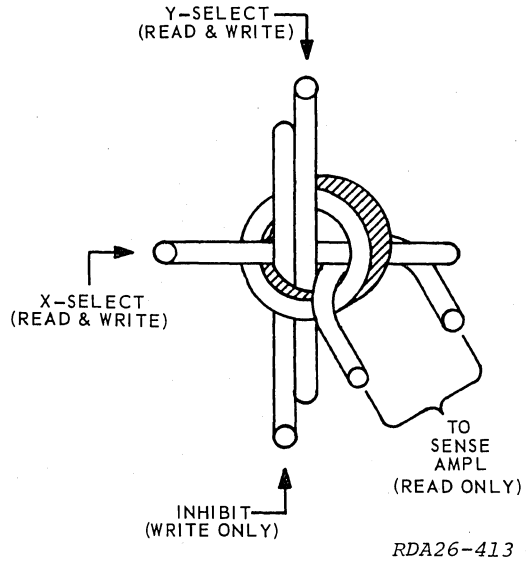

Figure 1-10. Ferrite Core
**INHIBIT WINDING.** Notice that the selection of a core that was in the zero state by positive half-select currents caused it to switch to the one state. The application of negative half-select currents to a core can be used to switch it from the one to the zero state. However, sometimes we need to select a core but leave the state of that core unchanged. This need to select, but not change, usually is the result of wanting to "write a zero." "Writing a zero" requires that we add another wire to the simple core plane, an inhibit winding. The inhibit winding will carry current that opposes one of the positive half-select currents and prevents the address selected core from switching to the one state. Since only one core from a plane can be selected at any one time, a single inhibit winding can be threaded through all the cores on a plane and energized only when it is necessary to "write a zero" into the selected core. In figure 1-10 the inhibit winding is parallel to the Y select wire.
SENSE WINDING. If information is stored in a ferrite core, we need some way of sensing or removing that information. This is usually done by adding yet another wire to the simple core plane, a sense winding (see figure 1-10). The sense winding is used to observe the current produced when a magnetic core is changed from the one to the zero state. The use of a sense winding requires that we apply negative half-select currents to the core in an attempt to put it in the zero state. If the core was in the one state and it is switched to the zero state, then the sense winding will receive the current produced by the collapse of the core's magnetic field. If the core was already in the zero state when the negative half-select currents were applied, there will be no change in the core's magnetic field and no current flow in the sense winding. Unfortunately, this sensing technique removes the stored "one" from the ferrite core; we are using what is called destructive readout. Again, since only one core on the plane can be selected at one time, only one sense winding per plane is required. This single sense winding can be looped through all the cores in a plane in such a way that the "noise" produced by the half-select current present in the plane will not affect the sense winding output.